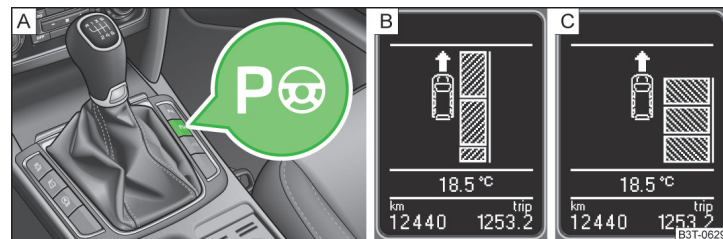

Fig. 148 System button / display
When the system is activated, the warning light lights up P » Fig. 148 on page 155 - A.
- Press the symbol button » Fig. 148 P » once.
The display shows the following » Fig. 148 - B.
- Press **twice** the symbol button P » Fig. 148.
The display shows the following » Fig. 148 - [C].
- Press the symbol button » Fig. 148 on page 155 **P** once.